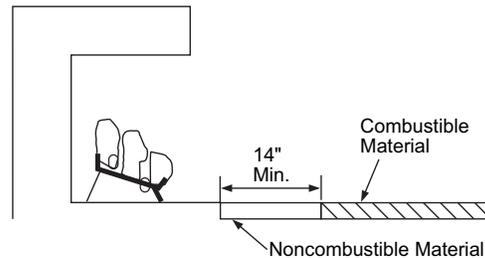

Figure 8 - Minimum Fireplace Clearances If Installed at Floor Level
- If installing appliance on the floor level, you must maintain the minimum distance of 14" to combustibles (see *Figure 8*).